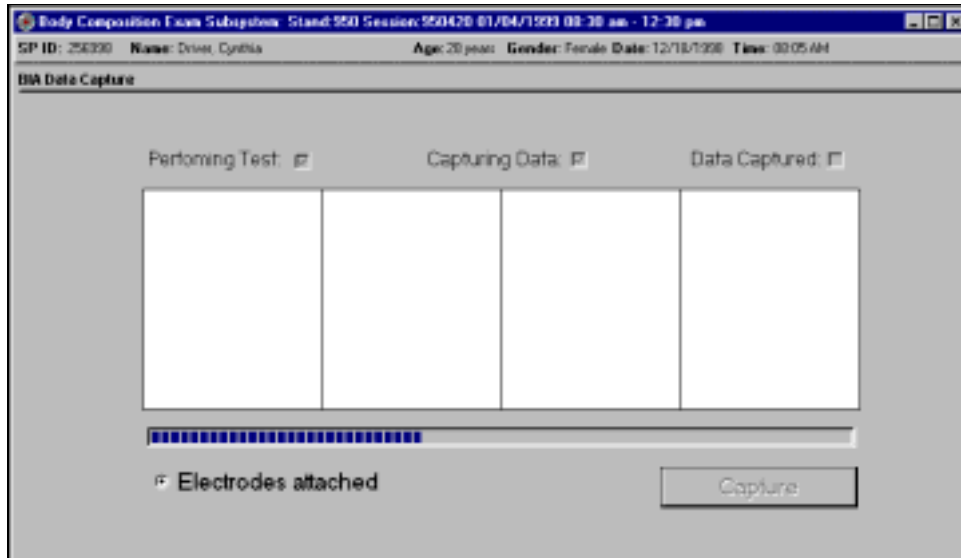

Figure 4-37. BIA data capture (2)
- When all the data have been captured, the system will check the 'Data Captured' button. See Figure 4-37.